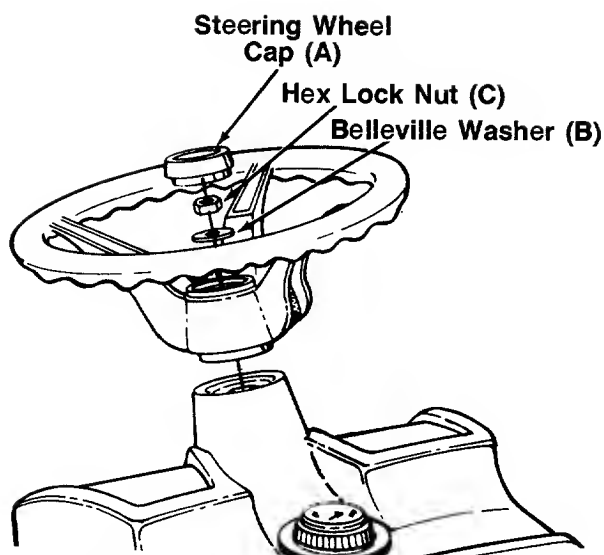

FIGURE 6.
3. Place the belleville washer (B) with the cupped side down over the steering shaft. Secure with hex lock nut (C). See figure 6.
4. Place the steering wheel cap (A) over the center of the steering wheel and seat it with your hand.